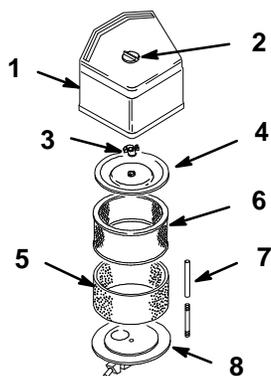

Figure 16
3. Clean around the air cleaner to prevent dirt from getting into the engine and causing damage. Remove knob and the air cleaner cover (Fig. 16).
4. Carefully slide the foam element off the paper element (Fig. 16).
5. Unscrew the cover nut and remove the cover and paper element (Fig. 16).
- 1. Carefully slide the foam element onto the paper air cleaner element (Fig. 16).
- 2. Slide the air cleaner assembly and cover onto the long rod. Now screw the cover nut finger-tight against the cover (Fig. 16).
- 3. Install the air cleaner cover (Fig. 16).